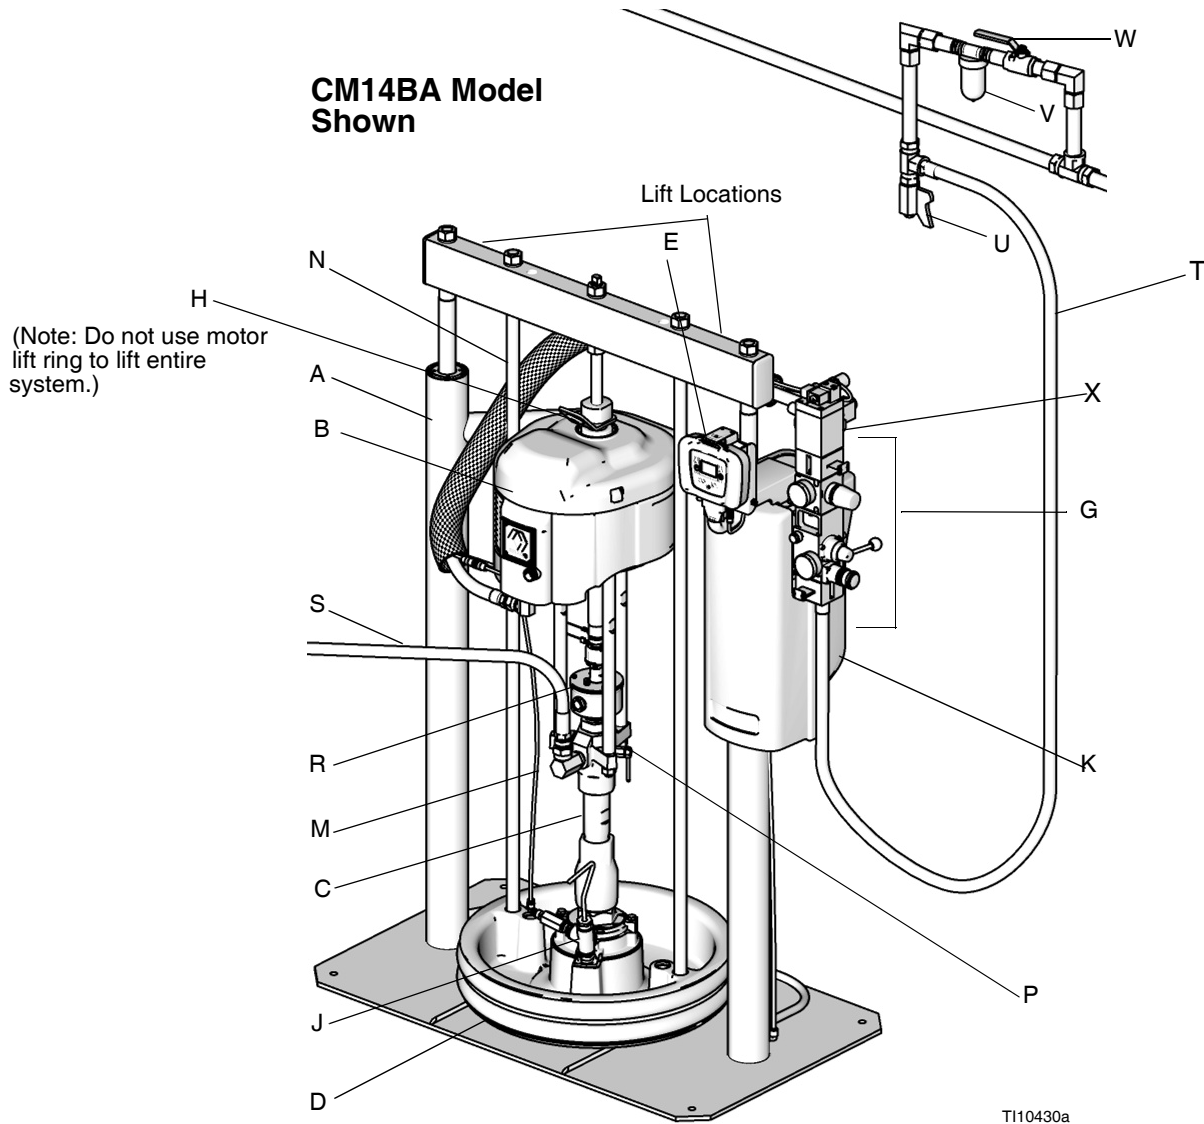

FIG. 1
- S Fluid Line (not supplied, see FIG. 1)
- T Air Line (not supplied, see FIG. 1)
- U Air Line Drain Valve (not supplied, see FIG. 1)
- V Air Filter (not supplied, see FIG. 1)
- W Bleed Type Air Shutoff Valve (not supplied, see FIG. 1)
See FIG. 1.